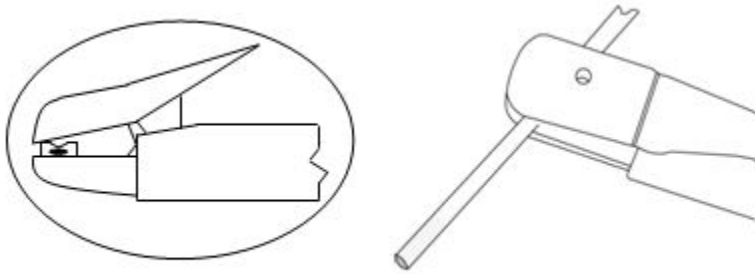

Figure 109B *Carbon Arc Cutting Torch*
2. Ensure air stream is directed toward the end of and under the electrode. (See Figure 109B)